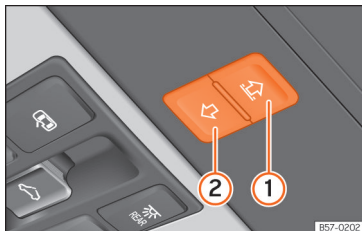

Fig. 91 On the interior roof lining: sunshade blind buttons.
Buttons **»» Fig. 91 1** and **2** have two levels. The first level opens or closes the sun blind fully or partially.
- *Sun blind*: within approximately 5 seconds of activating the roll-back function, press and hold button **»» Fig. 91** **Ⓧ** until the blind is fully closed.